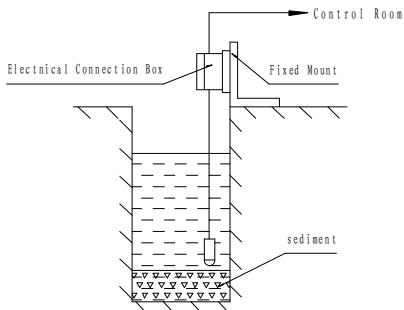
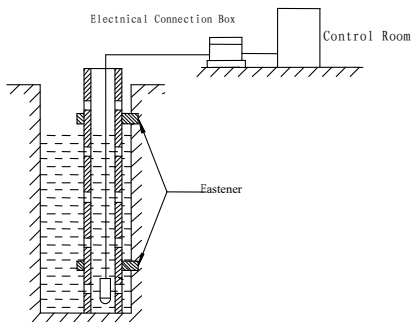

Fig. 2
Fig. 3
- a) The installation method in the pool to see Figure 2. To protect the transmitter, it should be mounted far away from the pumping in/out source to prevent the pumping impact; the transmitter also could be mounted as Figure 3, protected by steel pipe.
- b) The installation method in the deep well to see Figure 3. Steel pipe inserting method could be used. The steel pipe could not be bent, the internal diameter  $> 30\text{mm}$ . Several little holes could be made at